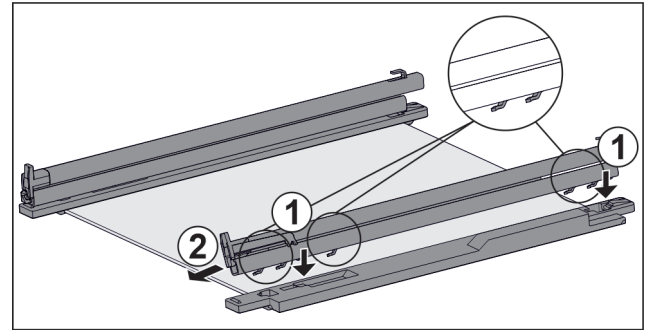

Fig. 116 Glass shelf with rails and retaining parts
- ▶ Place rail hooks onto the openings of the **left** retaining part. Fig. 116 (1)
- ▶ Push rail forwards. Fig. 116 (2)
- ▶ Place rail hooks onto the openings of the **right** retaining part. Fig. 116 (1)